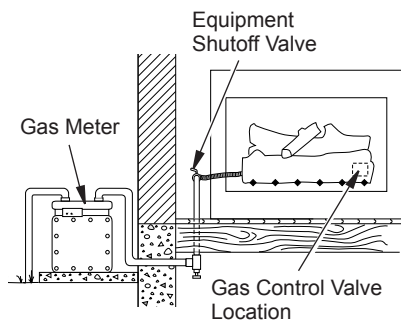

Figure 16 - Checking Gas Joints (Natural Gas Only)
1. Open equipment shutoff valve (see Figure 16).